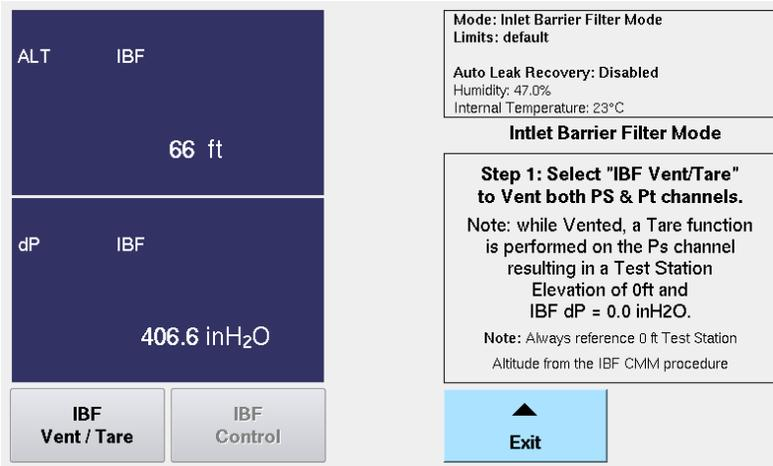

Figure F. 4 IBF Step 1 Screen
7. Touch "IBF Inlet Barrier Filter Mode". Step 1 screen is displayed with the message below (Fig. F. 4).